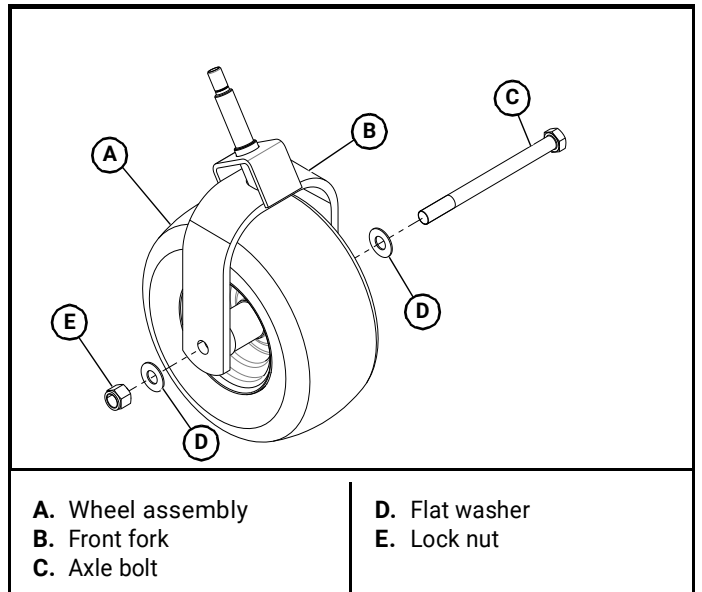

Figure 4-32
7. Slide the wheel assembly between the caster fork legs and assemble to the fork using the axle bolt, flat washers, and lock nut. Figure 4-32